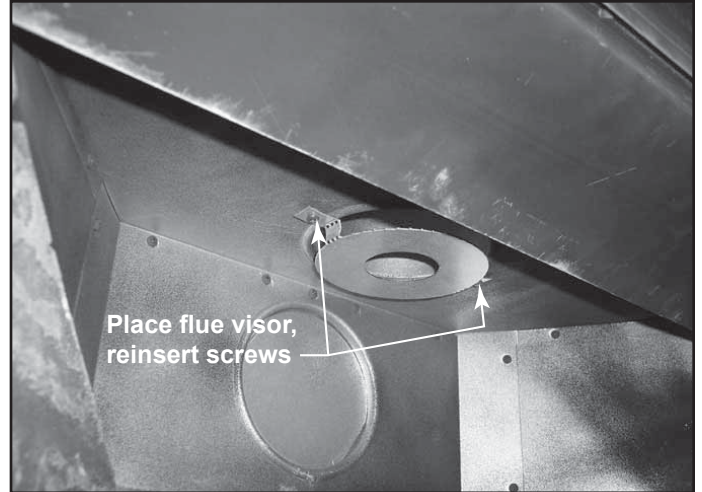

Figure 4.11d 12-30 ft Vertical Run
- The flue baffle will be turned to install below the level of the firebox top for 12-30 ft vertical runs of vent. See Figure 4.11d.